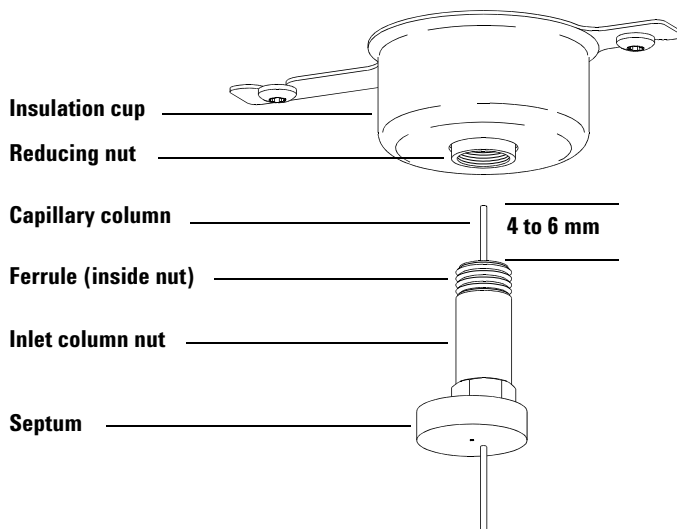

Figure 4 Installing a capillary column for a split/splitless inlet
- 7 Position the column so it extends 4 to 6 mm past the end of the ferrule. (See Figure 4.)